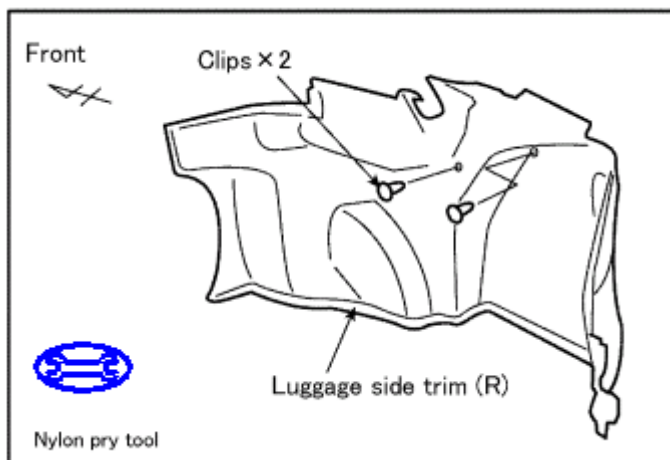

Figure J1
-  1. Remove two clips using nylon pry tool. (Figure J1)
2. Remove the luggage side trim. (Figure J1)